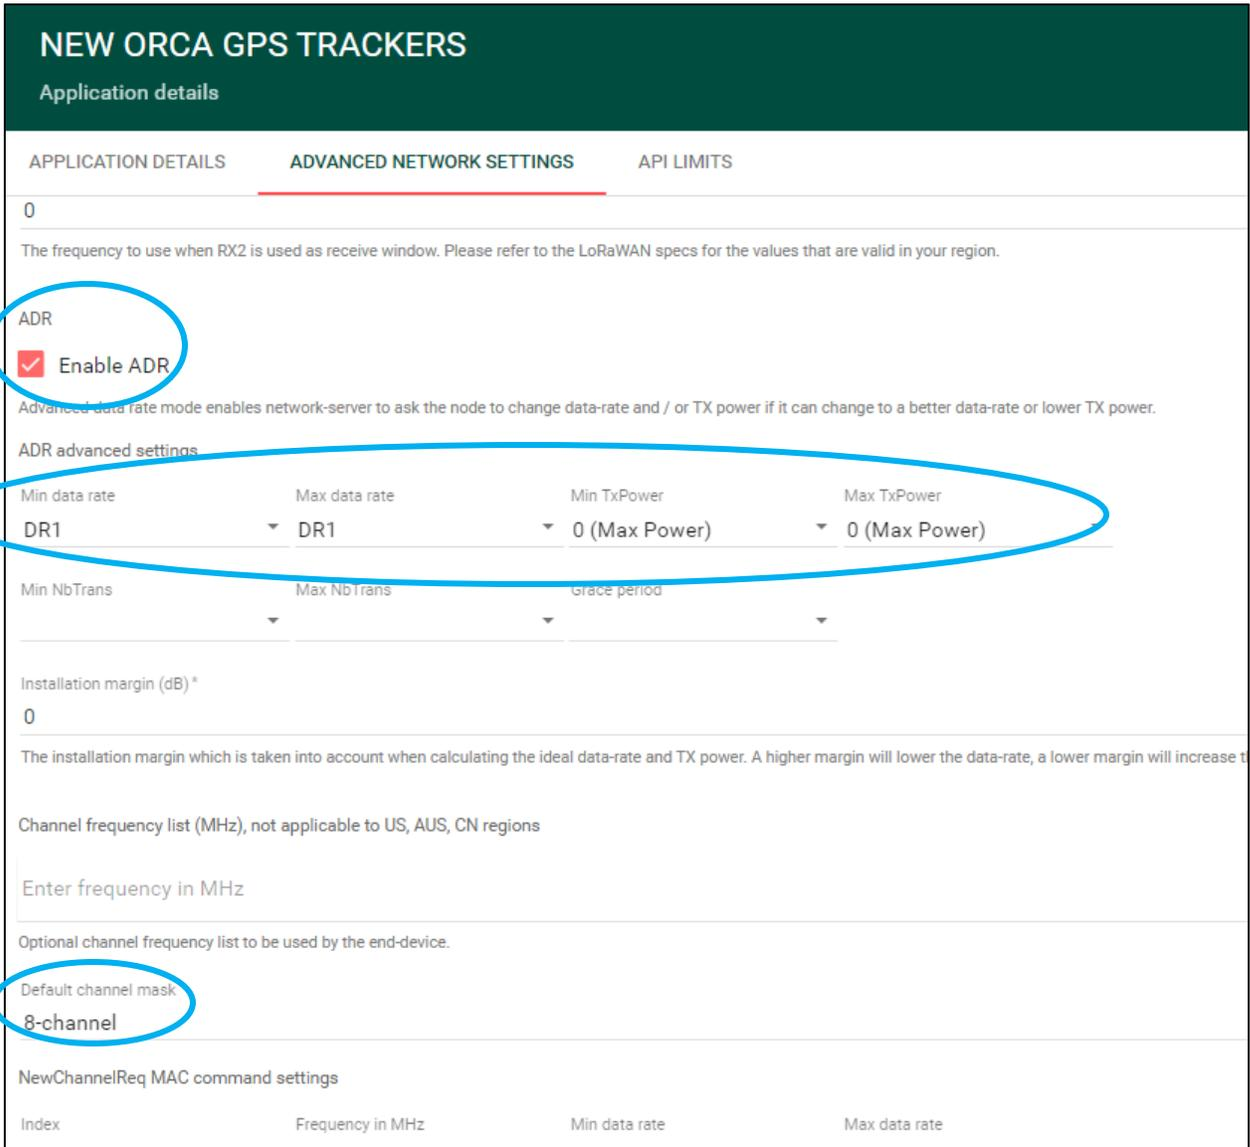

Figure 3: Advanced Network Settings
2. Once all the new ORCAs have been provisioned on the NS, go to the *Advanced Network Settings* tab for the NS application in which the ORCAs are provisioned. Ensure the following settings are configured (as shown in Figure 3):